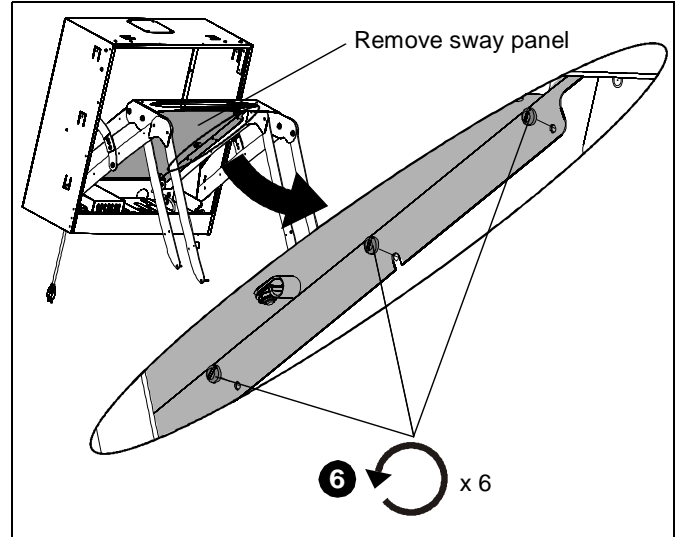

Figure 2
6. Remove six screws (three on each side) from sway panel and remove sway panel connecting the left and right side lifting arms. (See Figure 2)